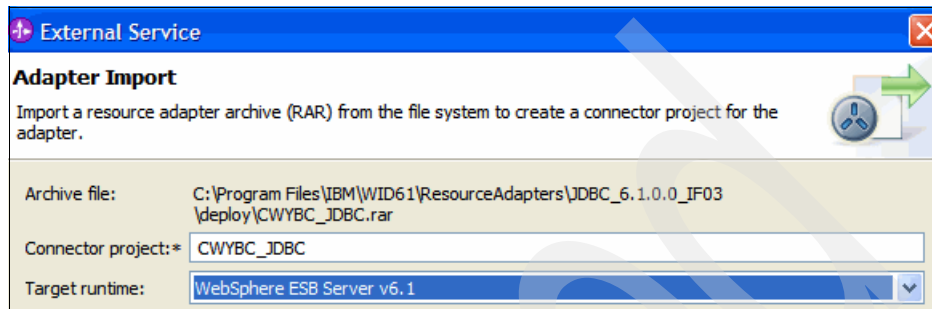

Figure 6-9 Adapter Import
4. In the External Service – Adapter Import window (Figure 6-9), for Target runtime, select **IBM WebSphere ESB Server v6.1** and click **Next**.